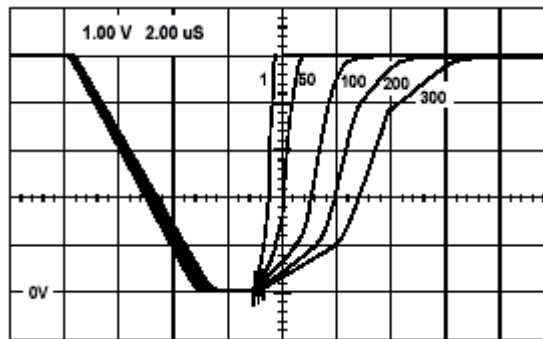

Figure 10 Loading effect of increasing the number of 1-Wire devices using active pull-up, and 2m cable.
Once both master and slave turn off, the bus pull-up resistor pulls the data line high. As the capacitive load on the 1-Wire network increases by adding 1-Wire devices, the time to raise the data line to the supply voltage also increases. This also occurs when the network is lengthened due to the 50pF of capacitance added per meter of twisted pair cable. This can be seen in **Figure 10** as the number of slaves is increased from 1 to 300. If the product of the total capacitive load (including cable, device, stray capacitance, etc.), and the pull-up resistor value results in a time constant (RC) that exceeds the bit time slot defined by 1-Wire protocol, communication stops. ***Because grounding unused wires or shields in a cable adds capacitance, which can significantly increase the RC time constant, they should be left disconnected.***
As can be seen in Figure 10, the input capacitance of the slaves, contribute to the total capacitive load on the network. However, the slaves' internal 800pF parasitic power supply capacitance only exists at voltage levels above 2.8V minimum. Ignoring the capacitance of the parasitic power capacitor, the bus pull-up resistor value, together with the cable capacitance and 1- Wire device input capacitance represent the network time constant τ . This is a reasonable omission since parasitic capacitance does not become a factor until the bus has already passed the 2.2V logic one threshold. The network time constant determines the rate at which the data line returns to a logic one voltage. With the requirement that at τ equals 13.02 microseconds (the original data sample time) the 1-Wire voltage needs to have reached the 2.2V threshold of a logic one, the value of τ can be calculated as follows.